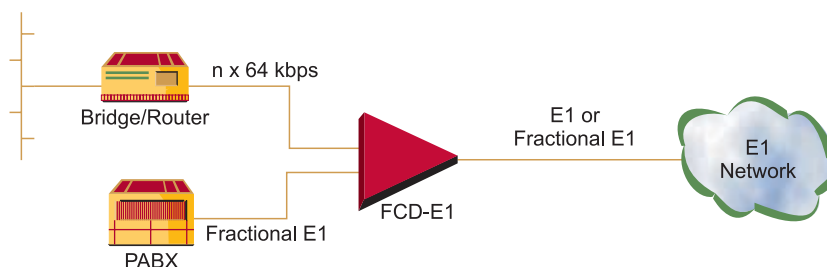

Figure 2. Connection of LAN Traffic together with PABX Traffic to E1 Network
- FCD-E1 is an access unit for E1 or Fractional E1 services. It can be used as a rate and interface converter or as an integrating multiplexer for E1 and Fractional E1 services (see Figure 2).